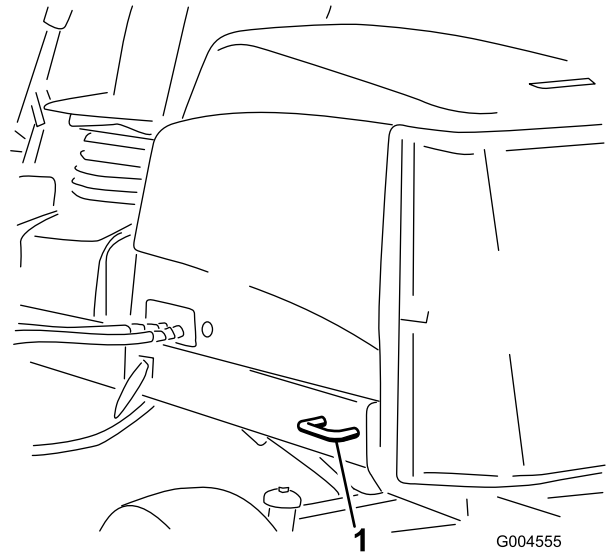

Figure 55
- **Rear of the machine**—each side of the machine on the rear frame (Figure 55).